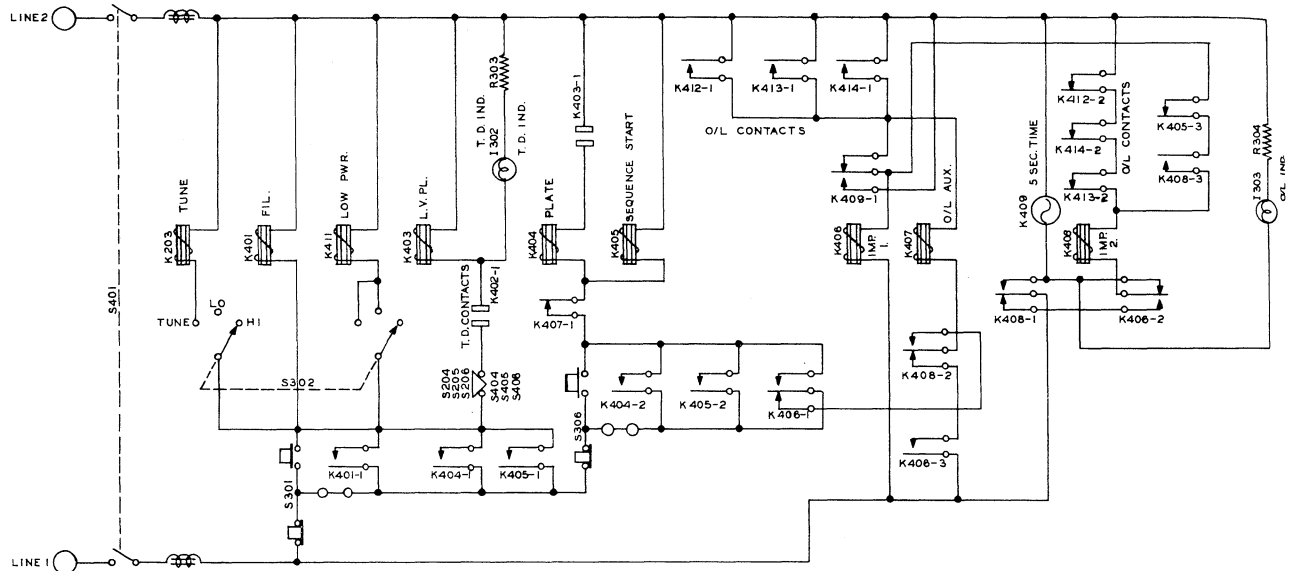

Figure 3-2 Simplified Power Control Circuit
3.1.2. Relay Control Circuits. - The simplified control schematic, figure 3-2, shows the power control relays and their contacts.